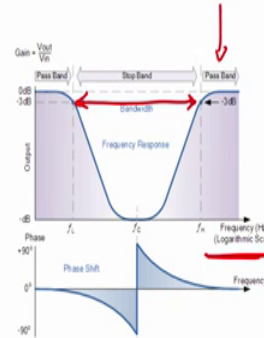

Figure 1
- A typical Band Reject Filter frequency response is shown in Figure 1 aside